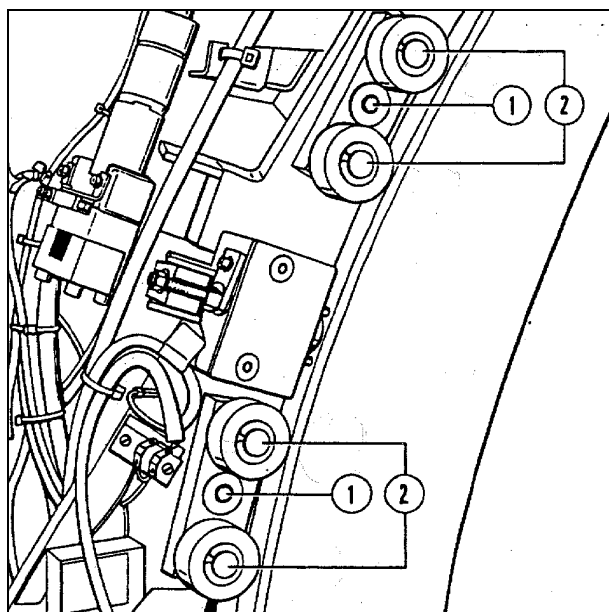

Fig. 4
- The distance between the inner and outer rollers can be adjusted. The distances of the outer roller pairs (Fig. 4/ 2) can be varied using the eccentric (Fig. 4/1).